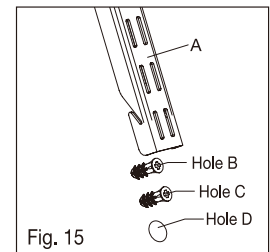

Fig. 15
- Drill 1/4 in. holes for hole B and C, drill 1/2 in. hole for hole D. Insert wall anchors (1/4 in.) into hole B and C (see Fig. 15).